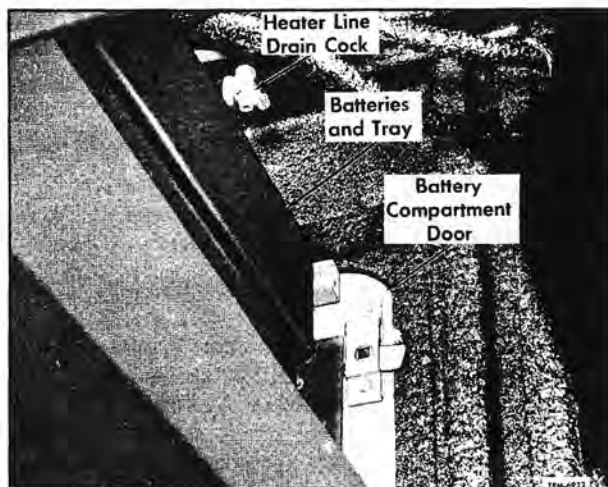

Figure 11—Heater Line Drain Cock Above Batteries
5. Open drain cock (fig. 11) just above coach batteries, to drain defroster heater line midway between front and rear wheelhouses.